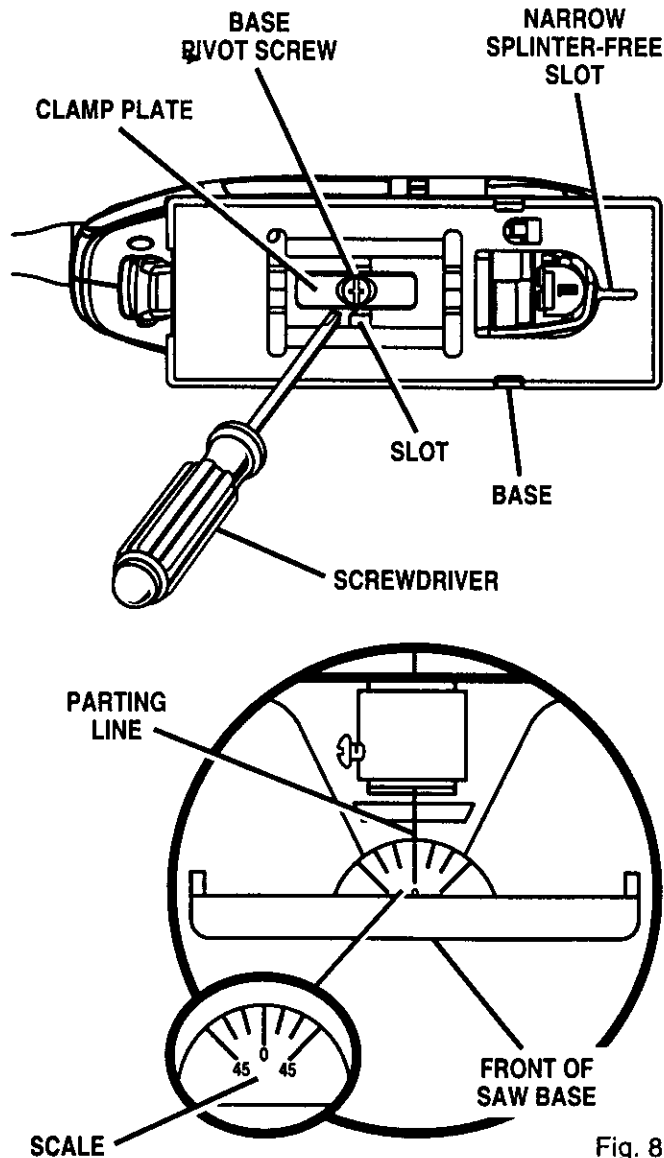

Fig. 8
See Figure 8.
- Once the desired angle is reached, tighten the base pivot screw securely. See Figure 8.